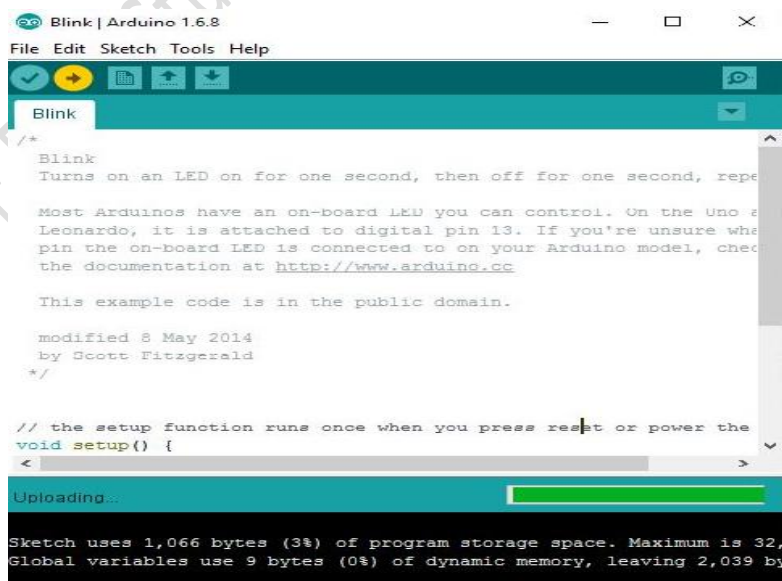

Fig.2.19: Uploading a code
6. Click on the upload button to upload the code to Arduino. Wait till the “Done Uploading” message status appears (Fig.2.19).